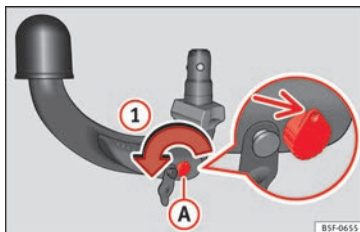

Fig. 179 Step 1.
- Turn the key in the direction of arrow ① until the part of the key with the holes reaches the top position »» Fig. 179.